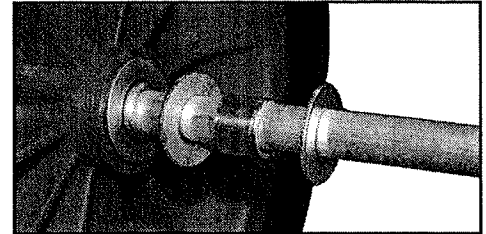

Fig 1
4. In this order, place a wheel with the valve stem facing the "cap washer", washer, bushing, and another washer onto the axle. (See Fig. 1)